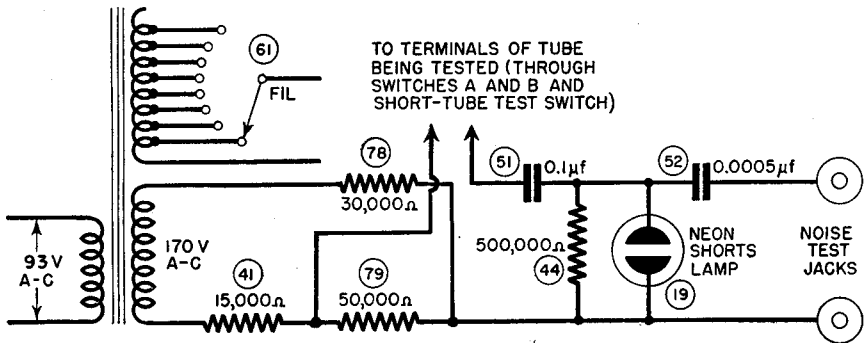

Figure 3. Tube Tester I-177, simplified noise and shorts test circuit.
14. SHORT TEST (fig. 3). Turning the SHORT-TUBE TEST switch through positions 1, 2, 3, 4, and 5 connects various pairs of tube electrodes in turn across the test terminals of the circuit. Tubes having shorts between elements complete the circuit and apply transformer voltage to neon SHORTS lamp 19, causing it to glow. Good tubes do not complete the circuit, and the lamp does not glow. Switches A and B (not shown) provide the proper tube socket connections for the tube under test, and the FIL. switch connects the tube filament to the correct tap on the filament winding.
15. NOISE TEST (fig. 3). This circuit is also used for making a noise test of vacuum tubes. With the antenna and ground terminals of a radio receiver connected to the NOISE TEST jacks, any intermittent short between tube electrodes momentarily permits alternating voltage from the power transformer to be applied to the neon lamp, causing a brief oscillation that will be reproduced as an audible signal in the receiver speaker.